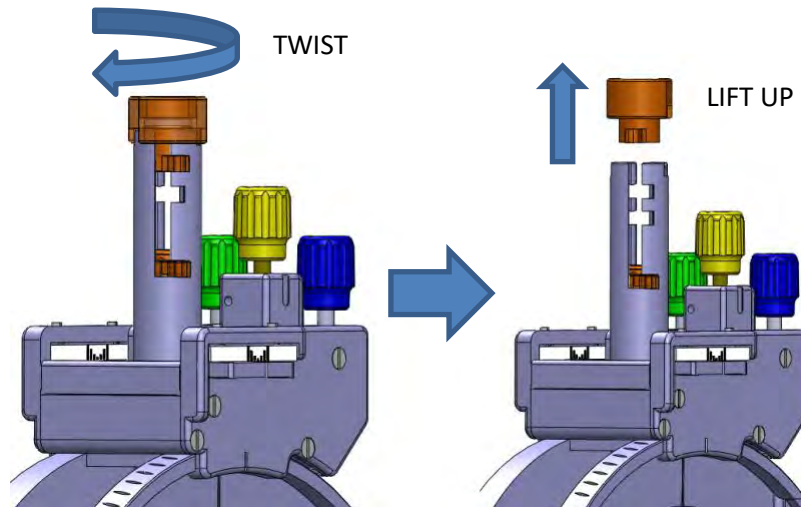

Figure 13: Removing the Targeting Cannula and TC Cap
- Twist the Removable Cap so that the Tabs disengage from the TC Support Slots. **See Figure 13.** Then, pull the Cap away from the TC Support.